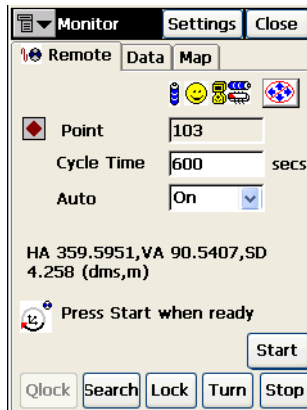

Figure 6-61. Monitor
- After the point list is selected, tap the **Next** button. The *Monitor* screen displays (Figure 6-61).